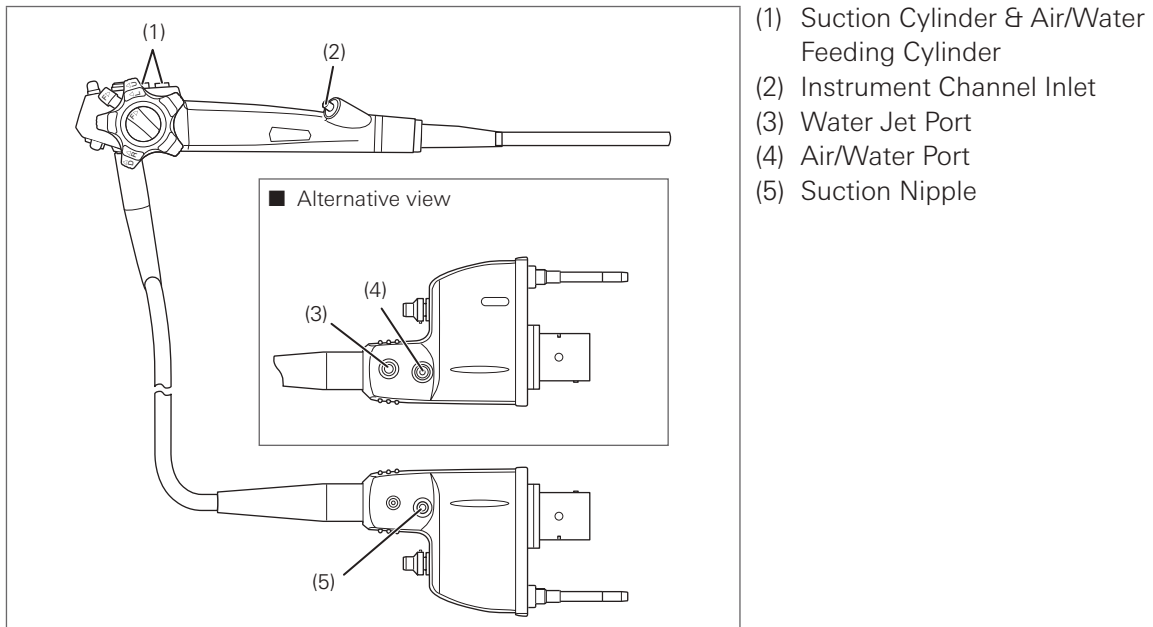

Figure 3.8
11. Check the control body, PVE connector, and electrical contacts for abnormalities such as scratches, deformities, loose parts, etc. Pay special attention when checking the parts shown in the Figure 3.8. Take clean, lint-free gauze to gently hold these parts, and move them in various directions to ensure that there are no abnormalities such as looseness.